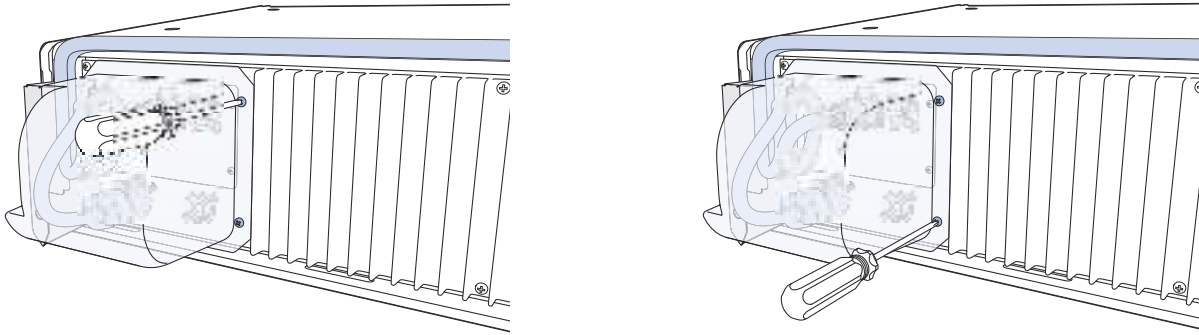

Figure 52: Tightening Screws on Right Side of Rain Hood
9. Tighten the upper and lower screws on the right side of the rain hood (Figure 52).